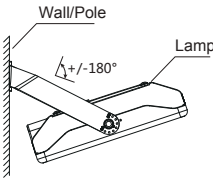

Figure 35
Step 3: Fix the fixture to the bracket and tighten the screws; connect the wires properly and put them into junction box (Figure 35).
Notice: Adjustable angle is 0~+/-180°(Figure 35)